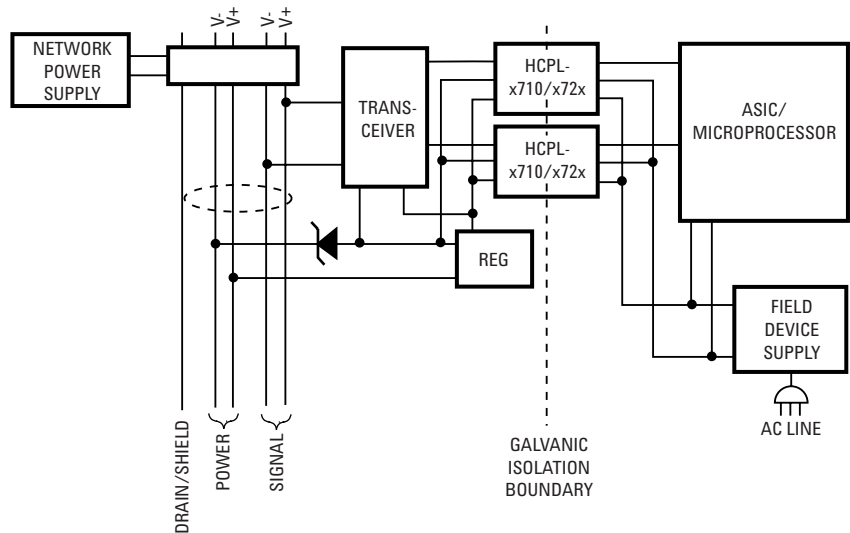

Figure 4. Isolation Node with Transceiver Powered by the Network
2. Isolation Node with Transceiver Powered by the Network (Figure 4);
Figure 4 shows when an application requires a significant amount of power. In this case, the field device is powered by the AC line while the transceiver and isolated side of the two optocouplers are powered by the